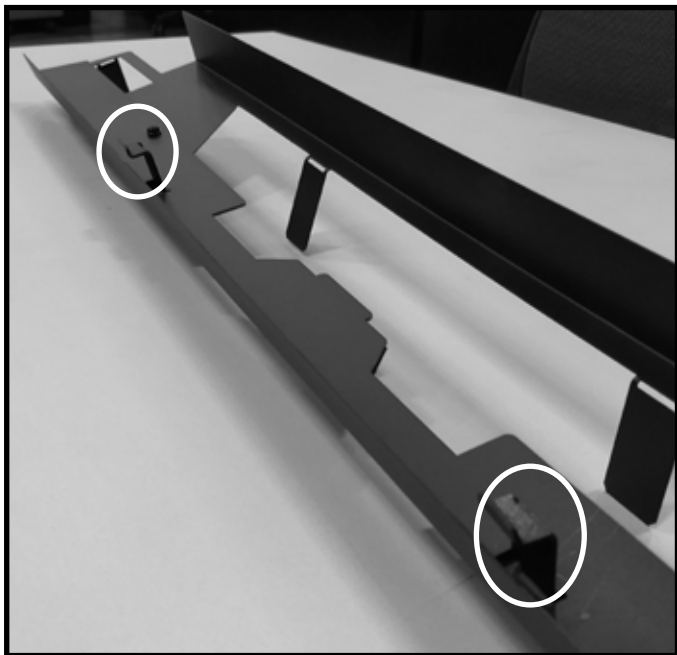

Figure 14.1 Refractory Support Tabs
2. Locate the two tabs on the refractory support inside the front of the appliance. Use a pliers to bend the tabs as shown in Figure 14.1.